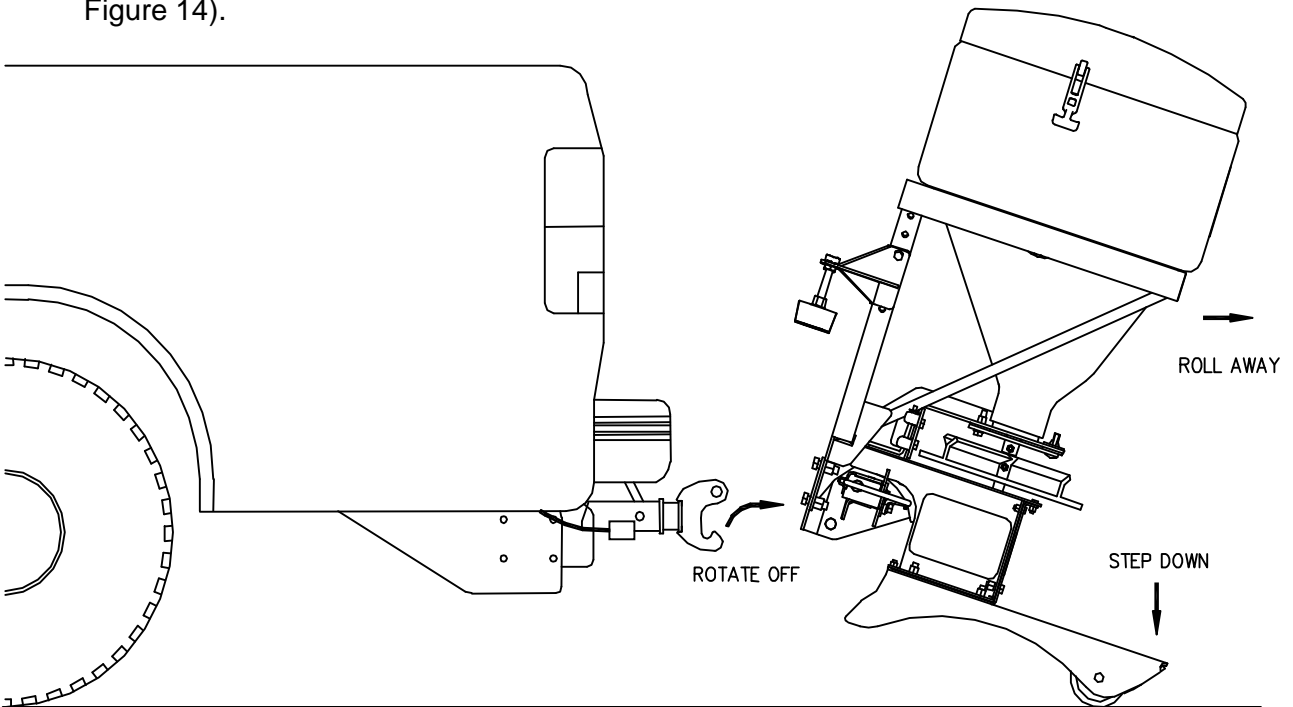

Figure 14. Spreader Detachment Procedure (RT3 Option Kit Installed)
- 6) Grip spreader firmly, step on Leg Assembly and rotate spreader off Lower Pin (See Figure 14).